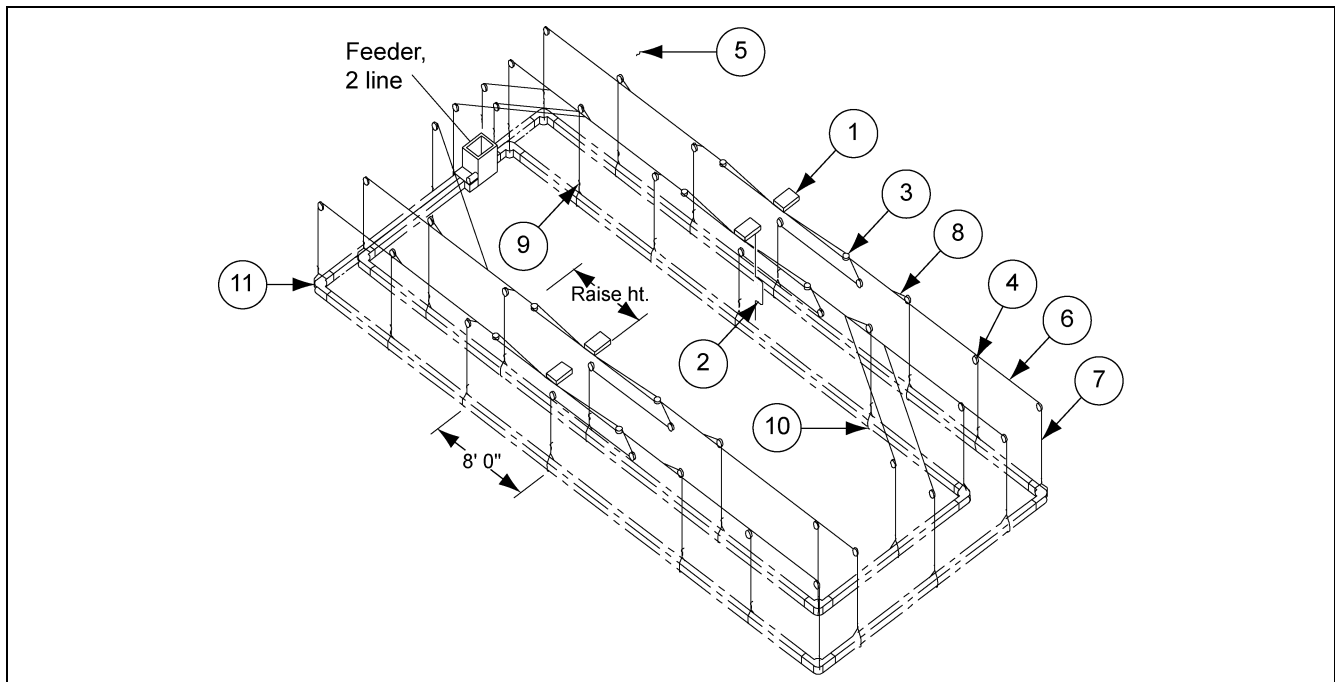
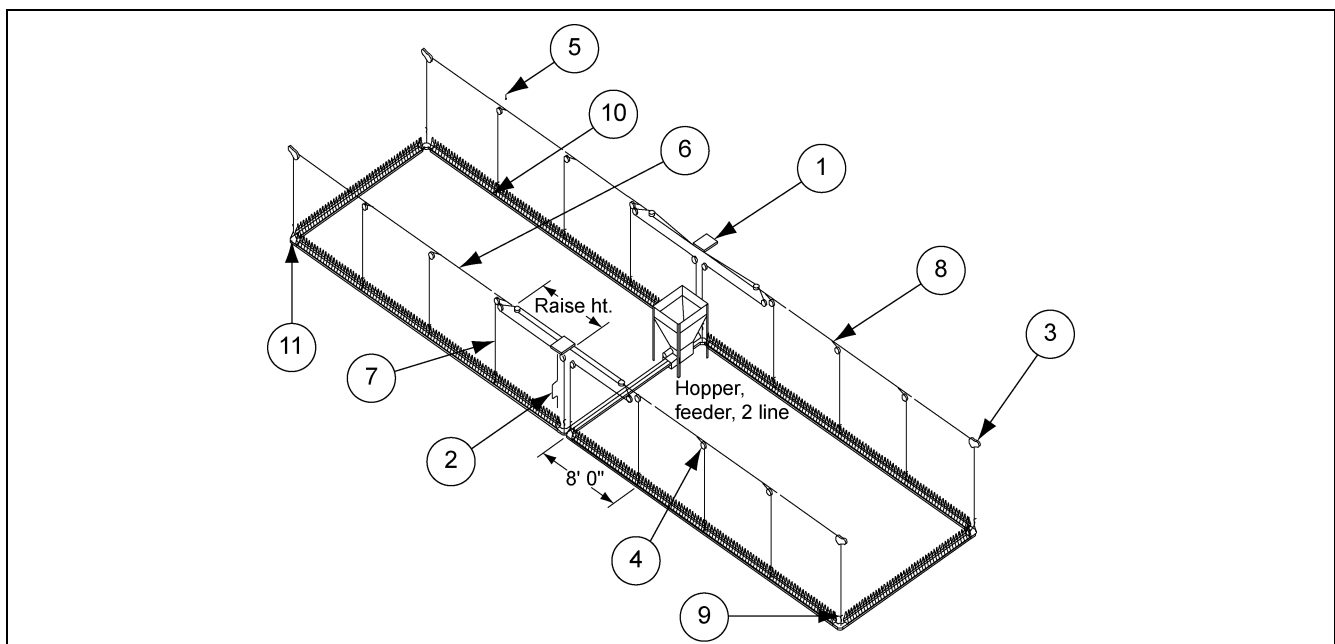

Figure 6P
Figure 6Q
**NOTE:** For suspending the ends of the system, install a 3-3/8" (85.7 mm) pulley at the end of each long section of trough and continue 3/16" (5 mm) cable around the corner to the center of the end. (See Figure 6Q.) The ends can also be suspended as in Figure 6P. Now you are ready to winch up the feeder for adjustment. Using the hand crank or a 1/2" (13 mm) electric drill, operate the winch to raise the system about 3' (1 m) above the floor.